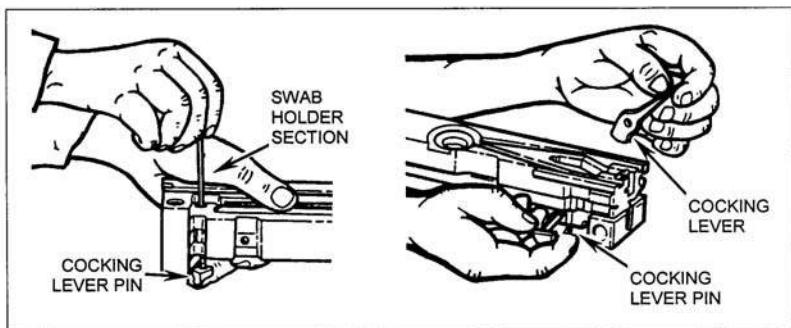

Figure 071-022-0001-11. Removal of the cocking lever pin and cocking lever
- (e) Use the thin end of the cocking lever to rotate the accelerator stop lock to the center of the bolt, then pry up the accelerator stop lock and remove it (figure 071-022-0001-12).